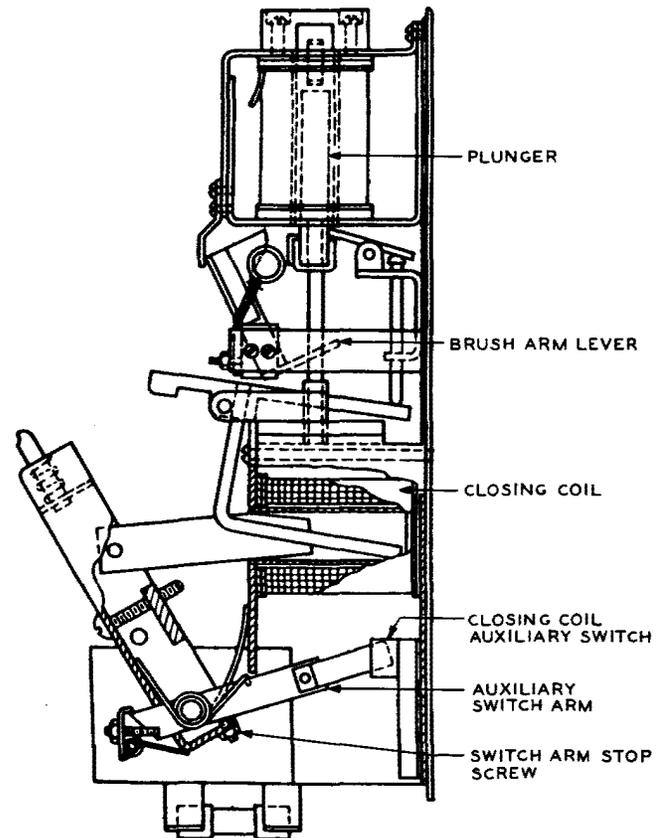

Fig. 7—Undervoltage Device and Contactor Mechanism (Main Contacts Open Old Version)
- (c) When the plunger is fully raised, the contacts shall be open. (See Fig. 7.)